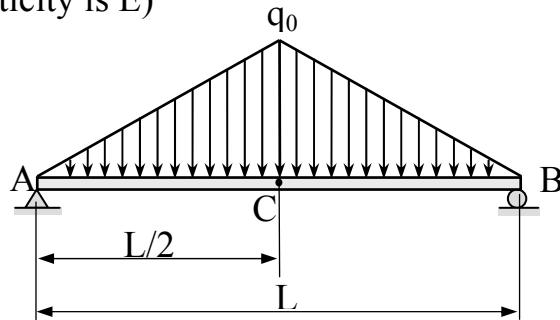

Figure 4
4. The simple supported beam and triangular distributed load as figure 4 shown. Please use the method of singularity function to determine (a) The deflection of point C ($y_C=?$) (10%) (b) The angular of A ($\theta_A=?$) (10%) (The modulus of elasticity is E)